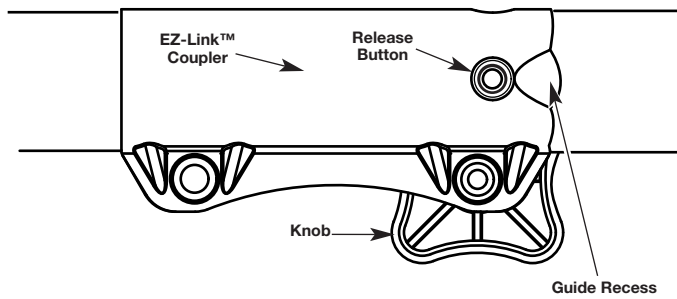

Fig. 16
1. Turn the knob counterclockwise to loosen (Fig. 16).
2. Press and hold the release button (Fig. 16).
NOTE: Aligning the release button with the guide recess will help installation (Fig. 16).